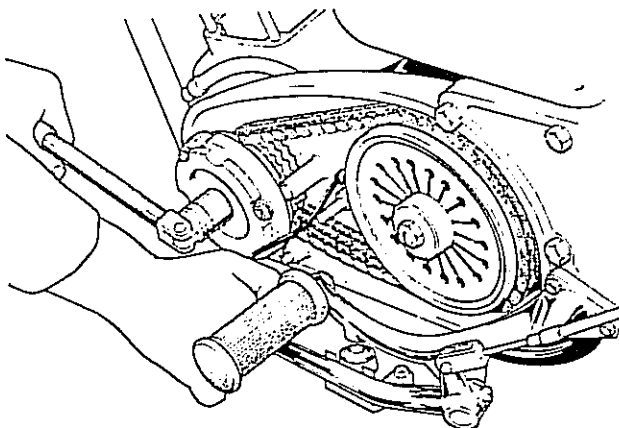

Fig. C12 Removing rotor nut whilst applying rear brake to prevent movement
- 1 Using a suitable sized socket wrench  $\frac{1}{2}$  in. Whit. on the alternator rotor nut, remove the rotor nut as shown in Fig. C12.